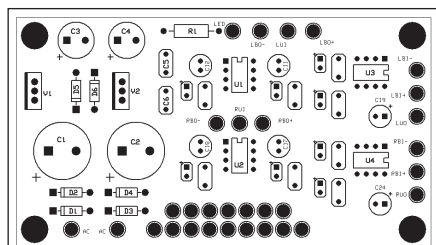

FIGURE 2: Layout diagram.
- A component layout diagram without pins as shown in **Fig. 2**.